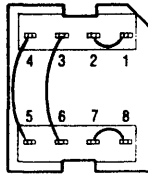

Figure 3-14
1. Wire an 8-pin header as shown in Figure 3-14, and install it in the Clock Header socket, board location 1A.